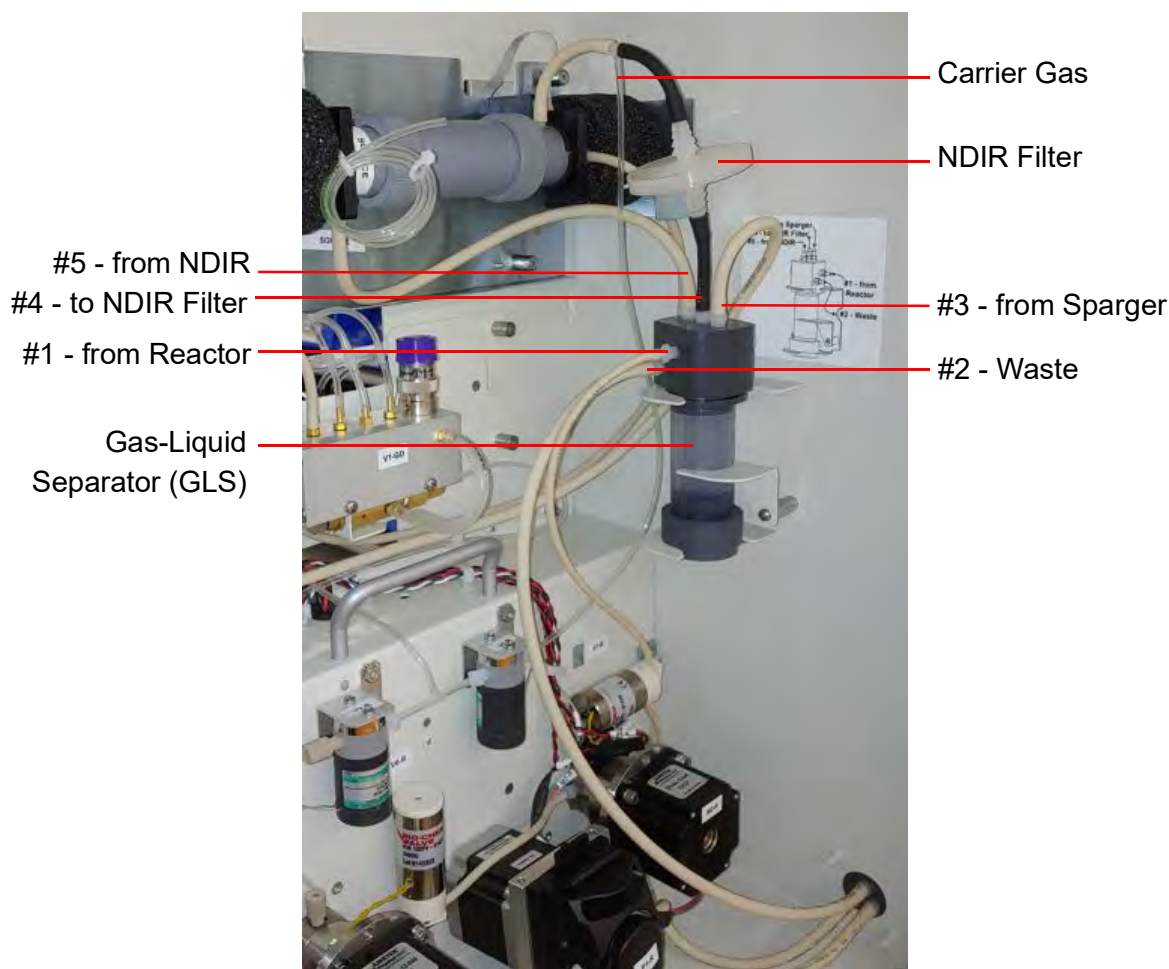
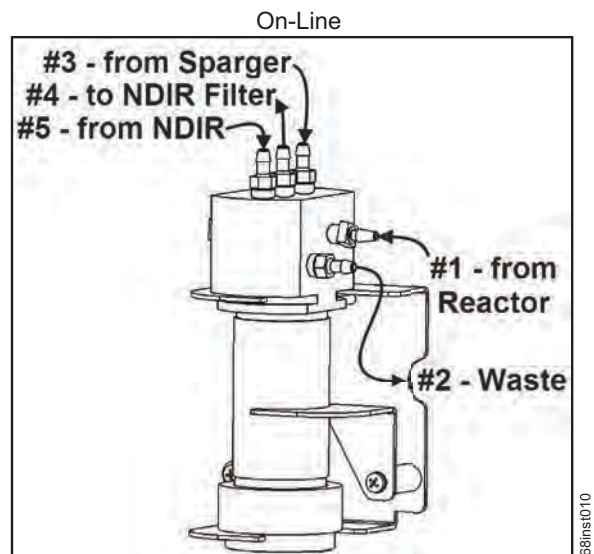

Figure 105: Connections to the Gas-Liquid Separator
Figure 106: Gas-Liquid Separator (GLS), Label
- Confirm that the Gas-Liquid Separator contains liquid to the proper level (Figure 105 and Figure 106) and that all tubes are properly connected.